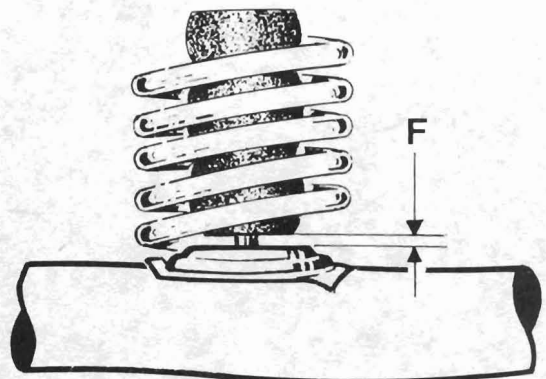

Fig. 11.4 Rear ride height diagram (Sec 9)
- 3 Measure the distance between the spring locating cup and the bump rubber pad (Fig. 11.4).